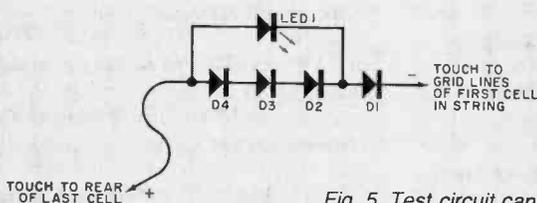

Fig. 5. Test circuit can be used with groups of five to 500 cells and outputs of 10 mA to 1A.
**Testing Solar Arrays.** The test circuit shown in Fig. 5 can be used with groups of five to 500 cells, and current outputs of 10 mA to 1 A. LED1 will glow when any group of five or more cells are positioned 6" to 8" from a 100-W light bulb. The diodes bypass everything over about 2.1 V so LED1 is properly biased. The solar cell arrays are inherently short-circuit protected, so the only limiting factor is the ability of the diodes to pass current. For cell arrays with outputs up to 3 A, use 1N1056 or 1N1226 diodes, or similar.
### PARTS LIST (Fig. 5)